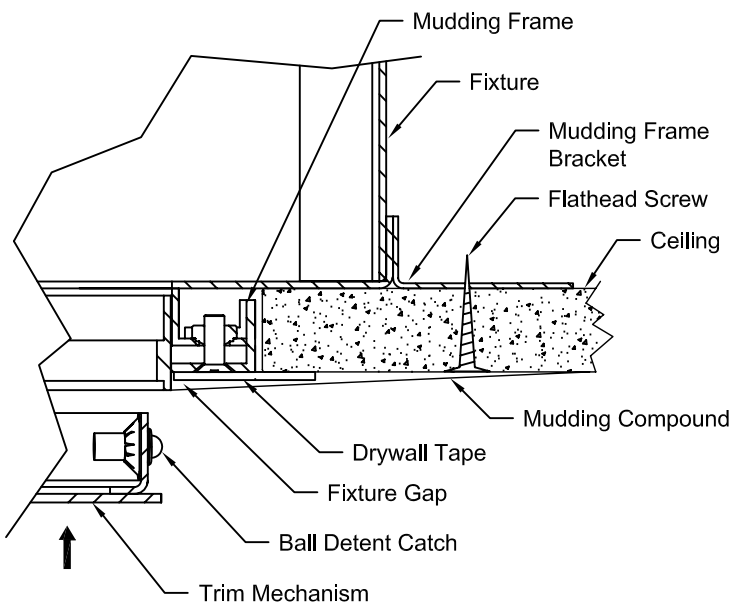

Figure 3
9. Install drywall up to Mudding Frame on Fixture so that the two (2) Mudding Frame Brackets on Fixture contact inside of Ceiling. See Fig. 3.
10. Retain Fixture to Ceiling with one (1) Flathead Screw through each of two (2) Mudding Frame Brackets. See Fig. 3.
11. Apply Drywall Tape and Mudding Compound to Mudding Frame overlapping Mudding Frame, Flathead Screws, Fixture Gap and surrounding area. Feather out Mudding Compound from Mudding Frame opening to surrounding ceiling area to produce a smooth, flat finish. See Fig. 3.
2. Install Trim Mechanism into Fixture by pressing firmly to seat Ball Detent Catches. See Fig. 3.